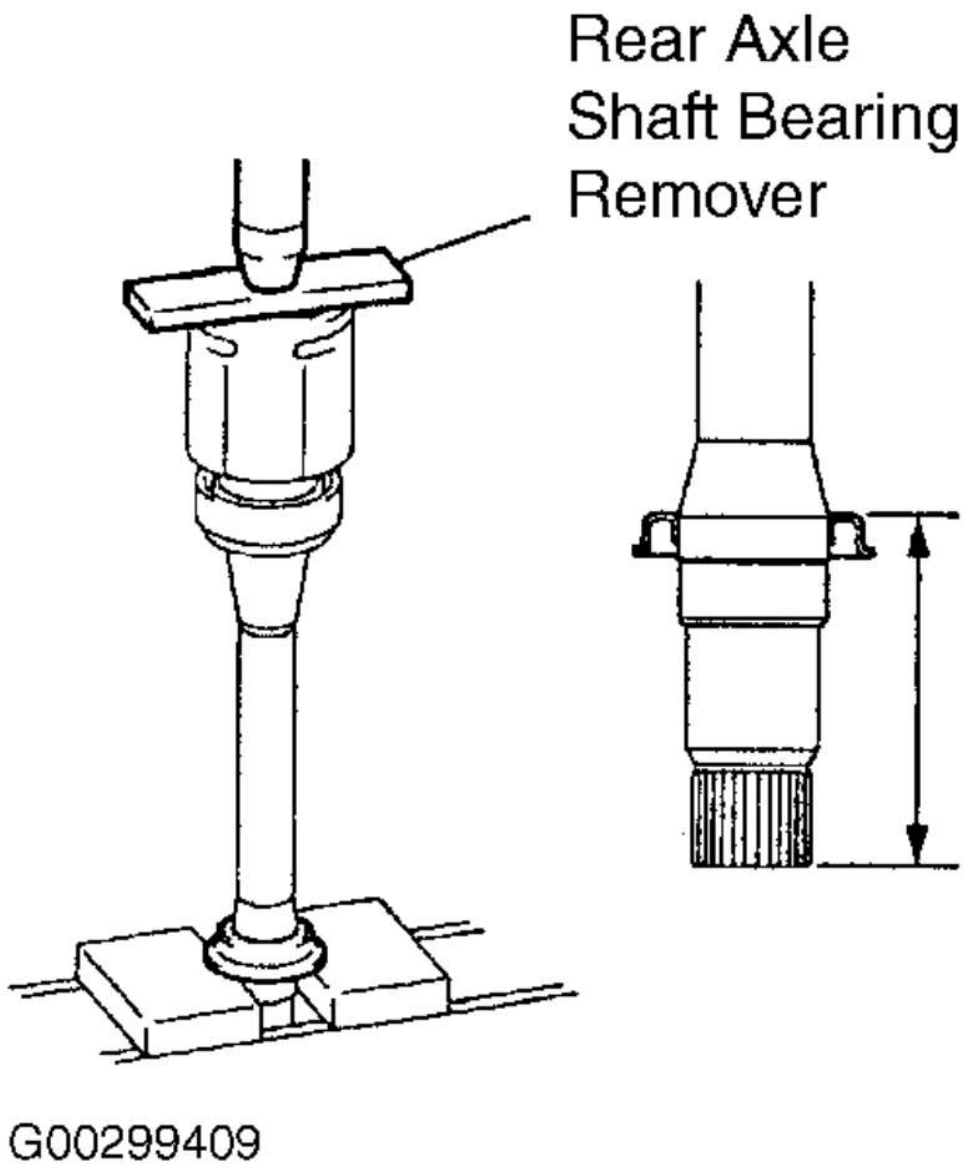

Fig. 6: Installing Right Axle Shaft Dust Cover
5. Using a press, install NEW dust cover onto axle shaft. Right-side (transaxle side) dust cover must be positioned 3.39-3.43 in. (86.0-87.0 mm) from end of axle shaft. See **Fig. 6** .